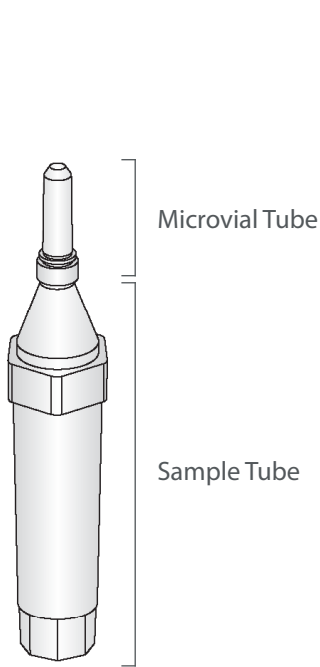

Figure 1
- 3.1. Label the nRicher Cartridge elements (both Sample Tube and Microvial Tube; see Figure 1, page 8) with a sample identifier; use one nRicher Cartridge per sample.